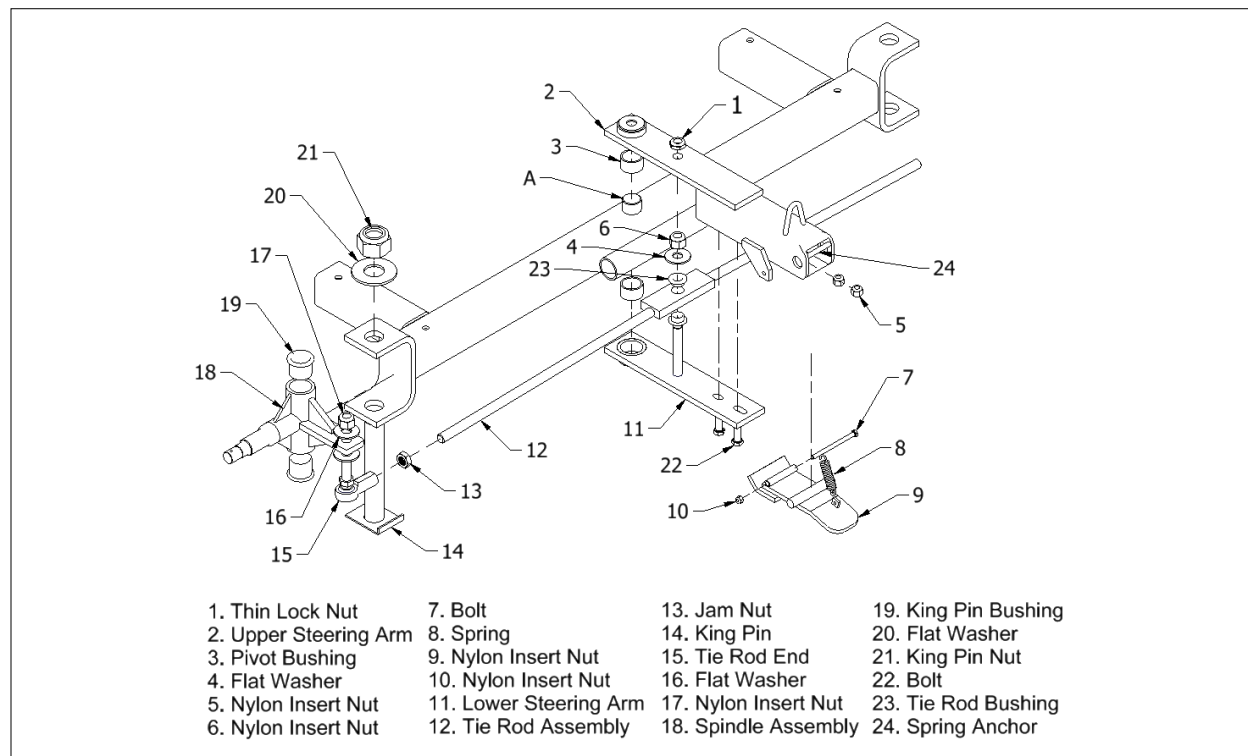

Figure 4-5 Exploded View of Undercarriage
(The remaining steps are illustrated in Figure 4-5) .
To remove the spindle assembly, follow the maintenance steps for the front hub assembly before beginning the next steps. See Figure 4-5.
Refer to Figure 4-5 for the removal of the tie rod. Before beginning this process make sure that you have followed the steps for the steering arm assembly. **Note presence and location of bushings (23) when removing tie rod assembly from steering arm assembly.**